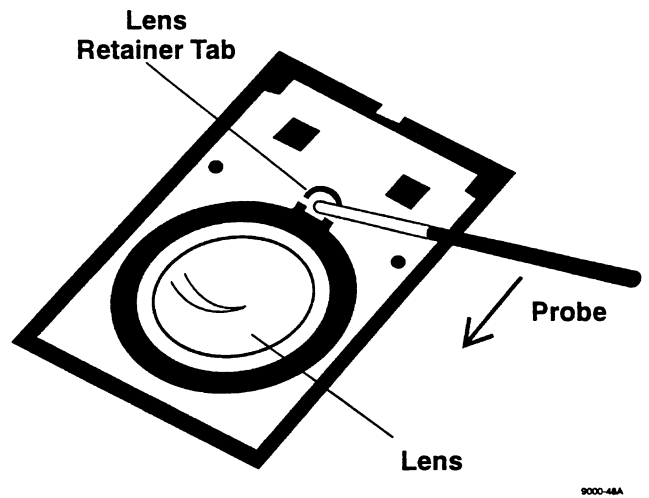

Figure 5-6. Replacing Singlet Lens
1. Insert a probe into lens retainer tab. Figure 5-6.